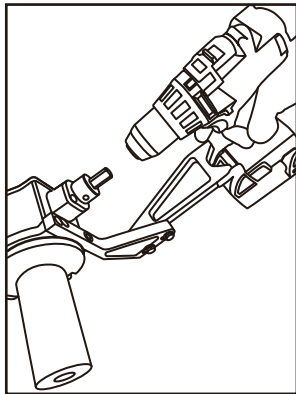

Fig 1
1. Loosen hand drill chuck to receive Input Shaft (3) of puller.
2. Align handle of hand drill with Adjustable Drill Cradle (2) and install onto Input Shaft Chuck Adaptor (3) and tighten drill chuck (Fig 1 and 2).